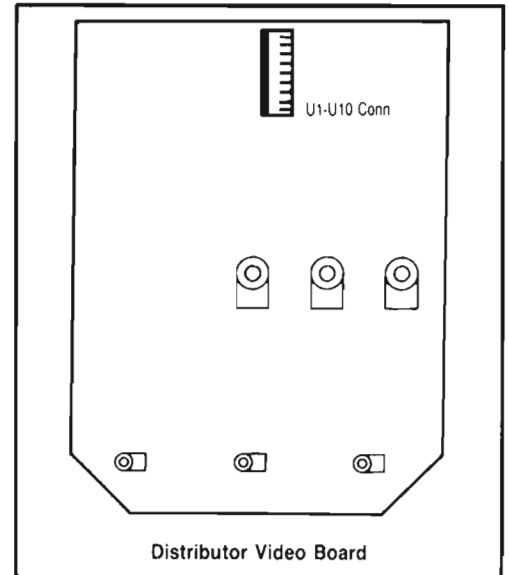

Figure 22
- D. Locate and unplug "switch-over" board, U1-U10. (See Figure 22.)
- H. Remove “U1-U10” (Figure 22) and replace with U1-U10 connector supplied in the poly-bag (4205-27-2).